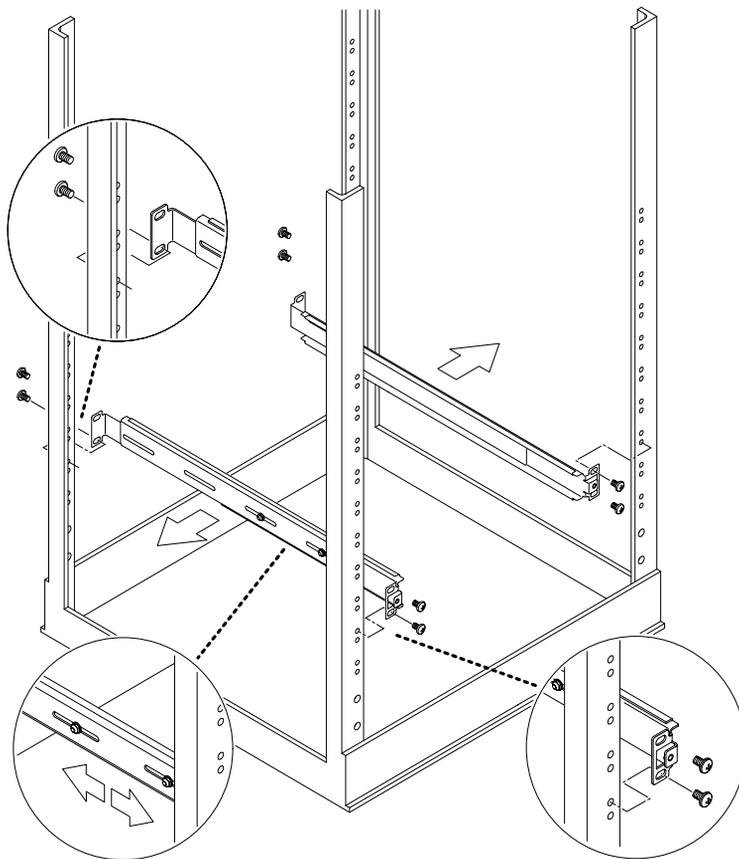

FIGURE 5-9 Fitting 19-inch Slide Mounts to the Rack
5. **Fasten the mounting slides to the rack using the screws supplied (see FIGURE 5-9).**